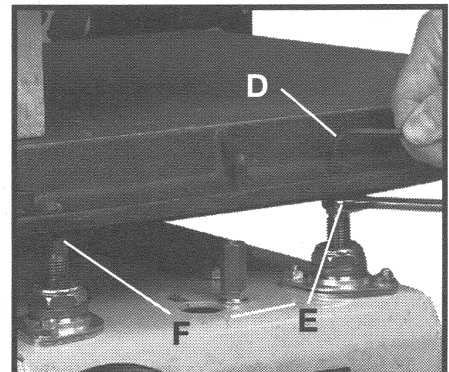

Fig. 20
2. Use a 1/2" wrench to hold the leveling screws (E) and (F) Fig. 20. Insert 3/16" hex wrench (D), and loosen the hex screws. Rotate leveling screws (E) and (F) Fig. 20, one flat at a time until parallel. **NOTE:** One flat on the leveling screw will raise or lower the table .010". Turn leveling screw (E) Fig. 20 clockwise to lower the table or counterclockwise to raise the table. Adjust both leveling screws (E) and (F) the same amount and in the same direction.